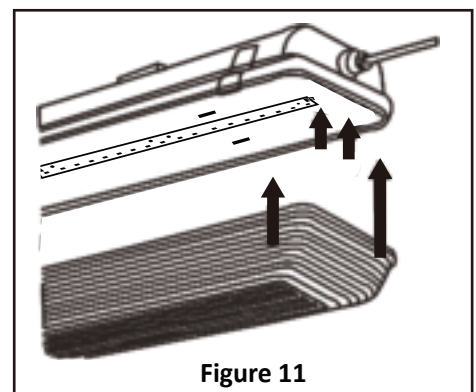

Figure 11
1. To install lens- position lens onto fixture housing. **See Fig. 11.** Edge of lens should be positioned in gasket area on the perimeter of housing. Slide latches over edge of lens. When latch is fully engaged it will produce a "snap" sound. Repeat for all remaining latches.